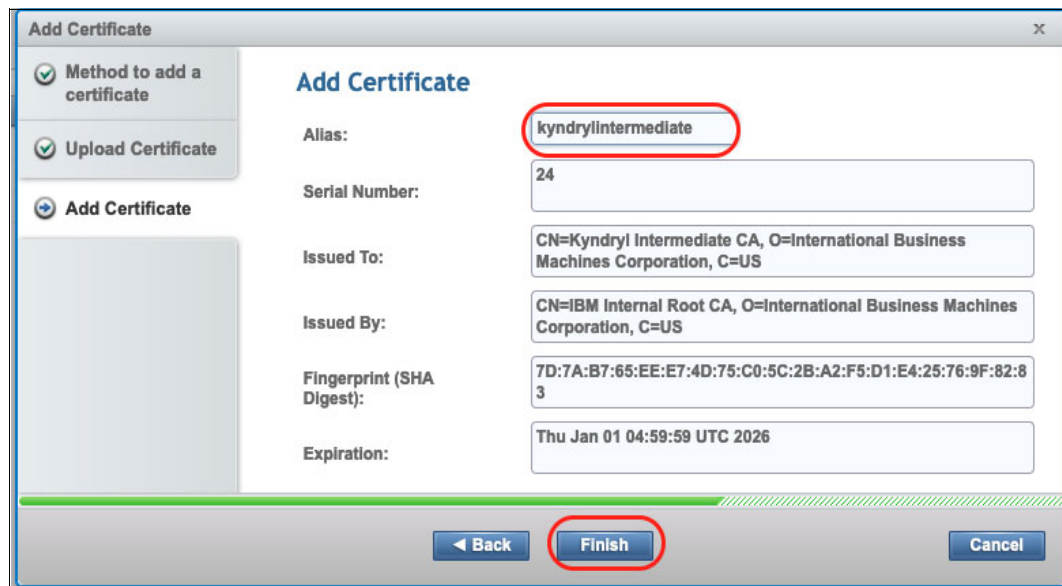

Figure J-7 Assigning an alias for the new certificate and completing registration
4. Verify that the properties of the uploaded file correspond to the target certificate. Then, assign an alias that identifies it in the TS7700 truststore (as shown in Figure J-7 on page 1025). Click **Finish** to complete the process.